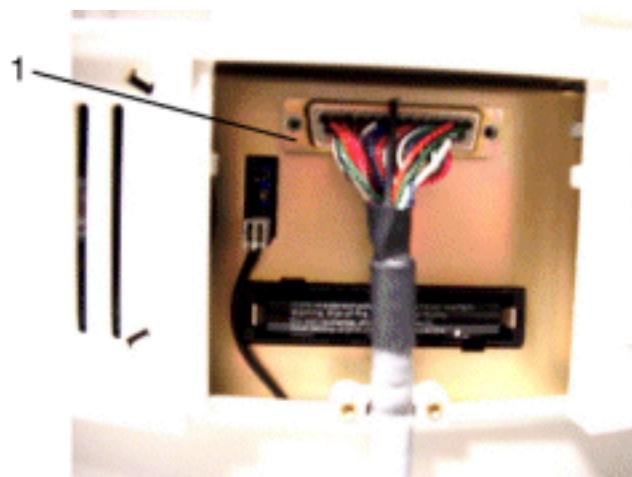

Fig. 125 Rear view of the display housing
3. Pull cable connector (1) out of plug-in socket, see Fig. 125.